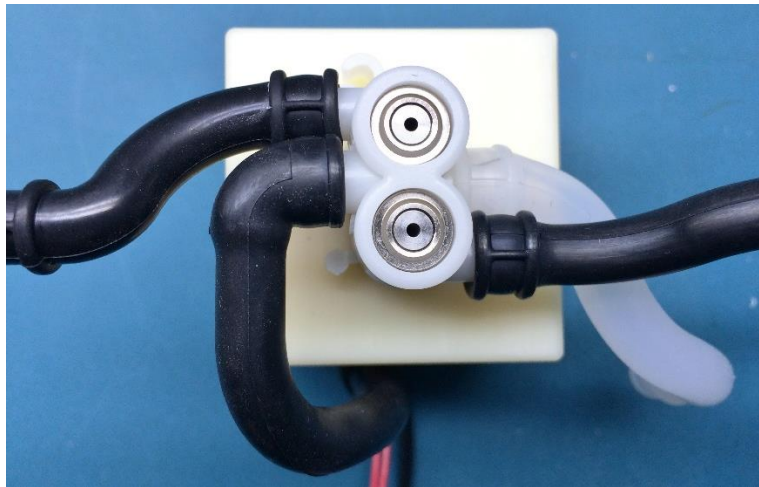

Figure 12: Feed Waste Manifold and Tubing
6. Remove all four tubes from the Feed Waste Manifold using a small flat head screw driver or pliers if necessary: Short Molded Column Tube, Long Molded Column Tube, Exhaust Tube, and Inlet Tube (Figure 12).
1. Install the tubing on the Manifold in the orientation shown in Figure 12. If any of the tubing was cracked or torn during removal, they will need to be replaced.